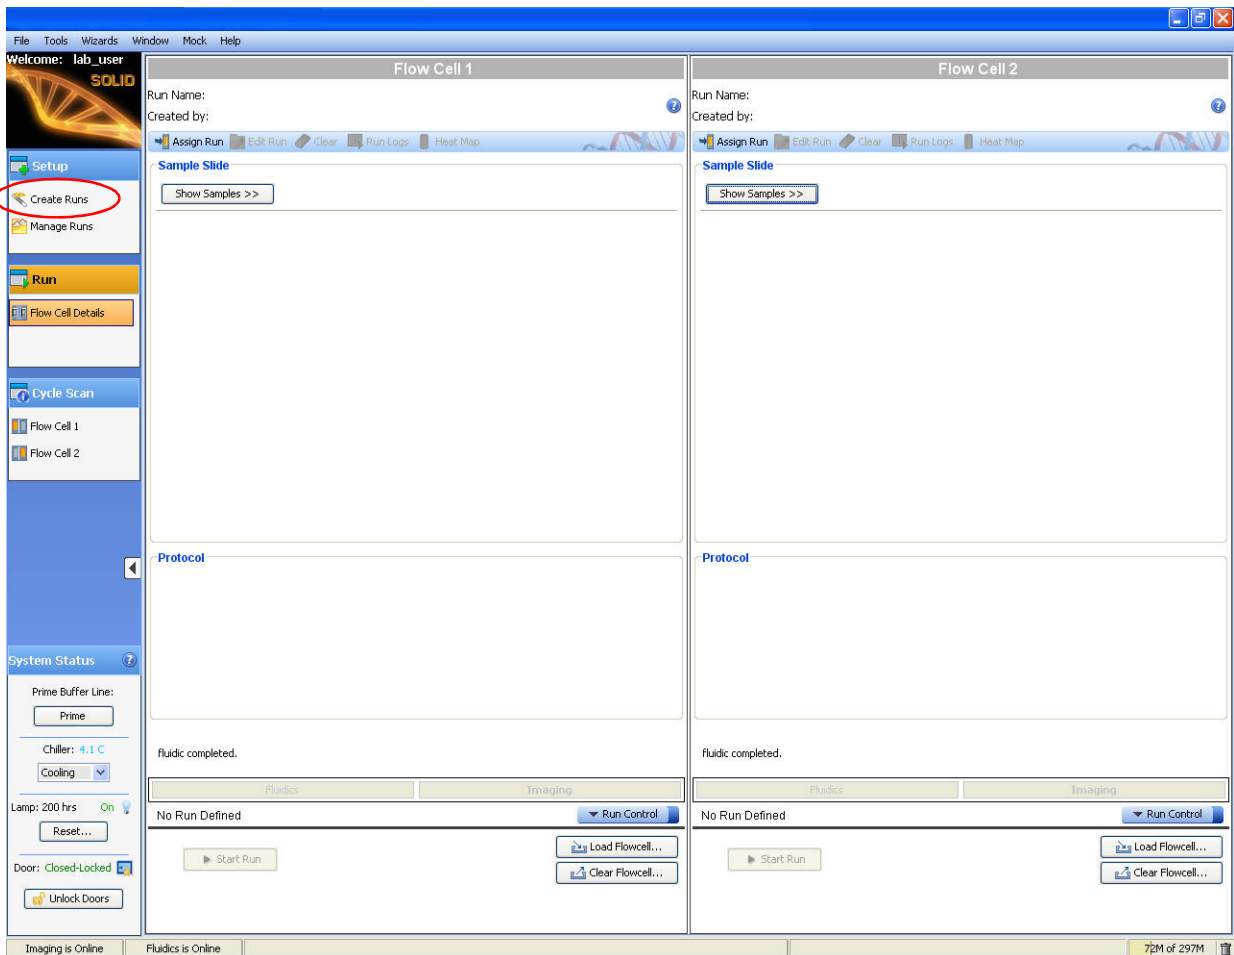

Figure 49 Use the run wizard to create a multiplex sequencing run.
1. Click **Create Runs** in the Setup task pane on the left menu pane of the ICS (see Figure 49).